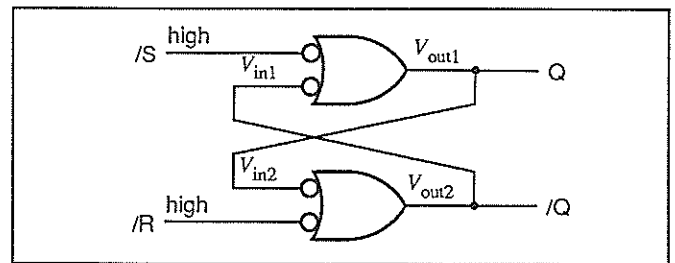
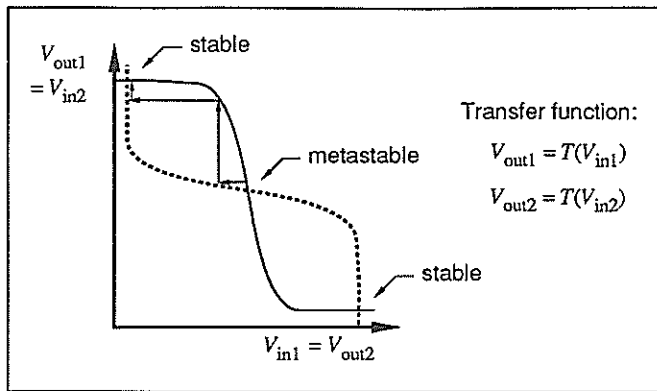

Figure 3. A pair of NAND gates forming an S-R flip-flop.
Figure 4. Transfer functions for NAND gates in S-R flip-flop.
Metastability can be observed and explained by looking at the simple S-R flip-flop shown in Figure 3. As you know, an analysis of this circuit from a strictly digital point of view shows that it has two stable states. However, the circuit has more to reveal if we consider its operation from an analog point of view.
The solid line in Figure 4 shows the steady-state (DC) transfer function T for a single NAND gate with one of its inputs tied high; the output voltage is a function of input voltage, $V_{out} = T(V_{in})$. With two NAND gates connected in a feedback loop as in Figure 3, if /S and /R are tied high we know that $V_{in1} = V_{out2}$ and $V_{in2} = V_{out1}$. Therefore, we can plot the transfer functions for both NAND gates on the same graph with an appropriate labeling of the axes. The solid line is the transfer function for the top NAND gate in Figure 3, and the dotted line is the transfer function for the bottom one.
We can find these equilibrium points graphically from Figure 4; they are the points at which the two transfer curves meet. Surprisingly, we find that there are not two but *three* equilibrium points. Two of them, labeled "stable," correspond to the two states that a "strictly digital" analysis identifies, with Q either 0 or 1. The third equilibrium point, labeled "metastable," has V_{out1} and V_{out2} sitting halfway between a valid logic 1 voltage and a valid logic 0 voltage; so Q and \bar{Q} are not valid logic signals at this point. Yet the loop equations are satisfied; if we can get the flip-flop to operate at the metastable point, it could theoretically stay there indefinitely.
Closer analysis of the situation at the metastable point shows that it is aptly named. It is not truly stable because random noise will tend to drive a circuit which is operating at the metastable point towards one of the stable operating points as we'll now demonstrate. Suppose the S-R flip-flop is operating precisely at the metastable point in Figure 4. Now let's assume that a small amount of circuit noise reduces V_{in1} by a tiny amount. This tiny change causes V_{out1} to *increase* by a small amount. But since V_{out1} produces V_{in2} , we can follow the first horizontal arrow from near the metastable point to the second transfer characteristic, which now demands a lower voltage for V_{out2} , which is V_{in1} . Now we're back where we started, except we have a much larger change in voltage at V_{in1} than the original noise produced, and the operating point is still changing. This "regenerative" process continues until we reach the stable operating point at the upper left-hand corner of Figure 4. However, if we perform a "noise" analysis for either of the stable operating